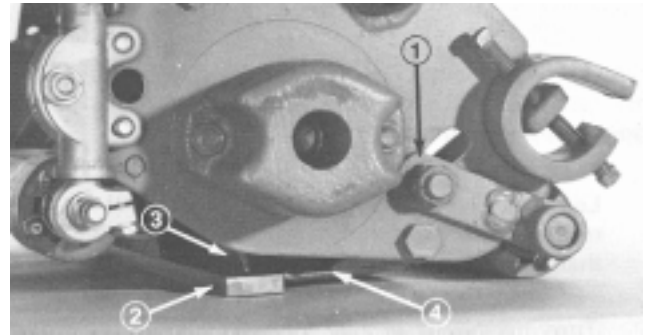

Figure 16
1. Mount the rear roller and height-of-cut brackets onto the cutting unit. For height-of-cut settings 1/4 in. (6 mm) or below, set one bracket in the side plate to 1/8 in. (3 mm) from the bottom of the slot and tighten the nut on the capscREW. Leave the bracket on the other side mounted loosely (Fig. 16). For height-of-cut settings above 1/4 in. (6 mm), center the bracket in the slot and tighten the nut.
2. Place a 1/4 in. (6 mm) or thicker plate under the reel blades and against the cutting edge of the bedknife (Fig. 16).